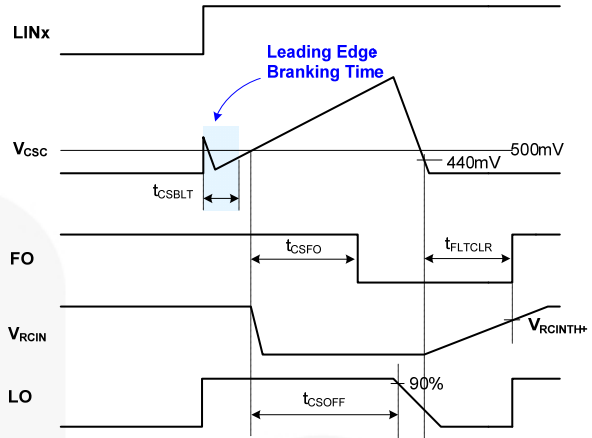

Figure 42. R_{CIN} and Fault-Clear Waveform Definition
Figure 42 shows the waveform definitions of R_{CIN} , $\overline{FO}$ and the low-side driver, which uses a soft turn-off method when an under-voltage condition of the low-side gate driver supply voltage (V_{DD}) or the current-sense pin (CS) recognizes a fault. Once a fault condition occurs, the $\overline{FO}$ pin is internally pulled to COM and all outputs (HO1,2,3 and LO1,2,3) of the gate driver are turned off. Low-side outputs decline linearly by the internal sink current source ($I_{SOFT}=40\text{ mA}$) for soft turn-off, as shown in Figure 42.